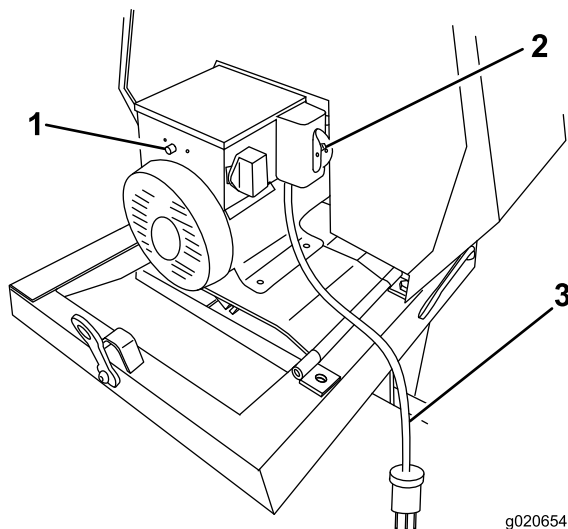

Figure 24
2. Disconnect the electrical plug for the machine from the power source (Figure 24).
4. On the side of the junction box for the motor, press the reset button for the thermal-overload protector (Figure 24).